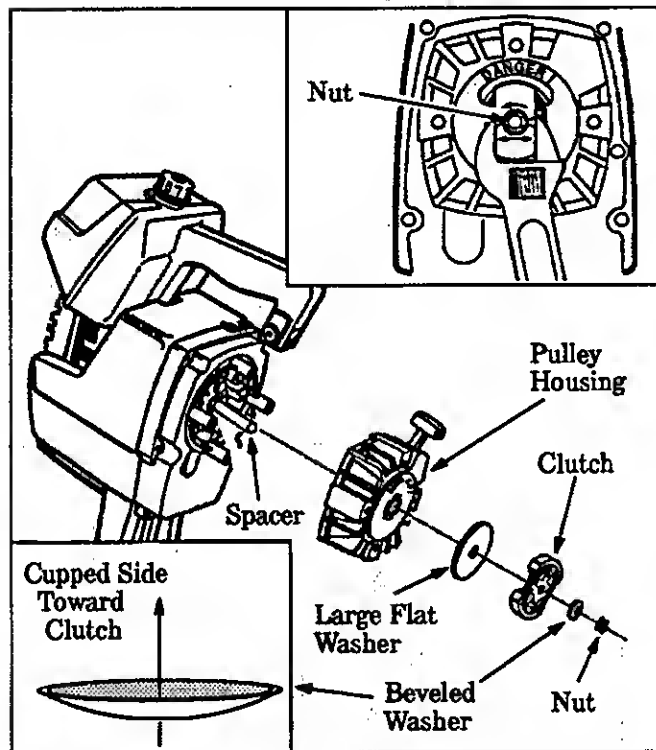

Figure 27
5. Hold the "Flats" of the clutch with an adjustable wrench as shown in Figure 27 (inset) and remove the Nut counterclockwise with a 9/16" socket wrench.
6. Remove the Beveled Washer, Clutch, and Large Flat Washer as shown in Figure 27.
7. Remove the Pulley Housing from the Engine. Figure 27.
21. Make sure Spacer is in place as shown in Figure 27, then reverse steps 1 through 7 to re-assemble.
CAUTION: When reinstalling the clutch, install the beveled washer as shown in Figure 27 (inset, lower left) and tighten the nut until the beveled washer is flattened against the clutch. Over or under tightening the nut can cause engine damage.